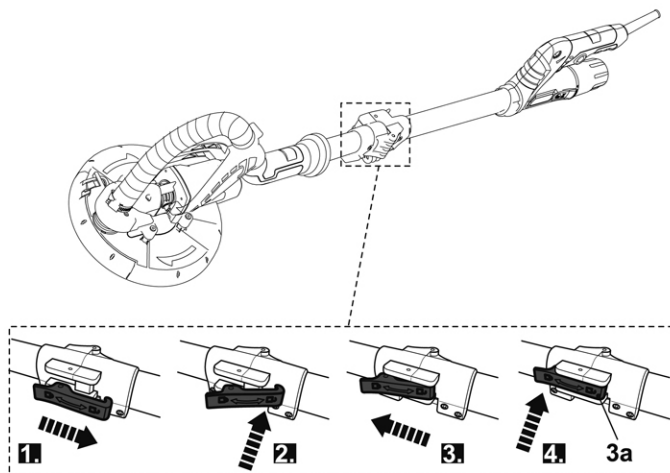

Fig. 2
2. Secure the connection with the locking device **(3a)** (Fig. 2).